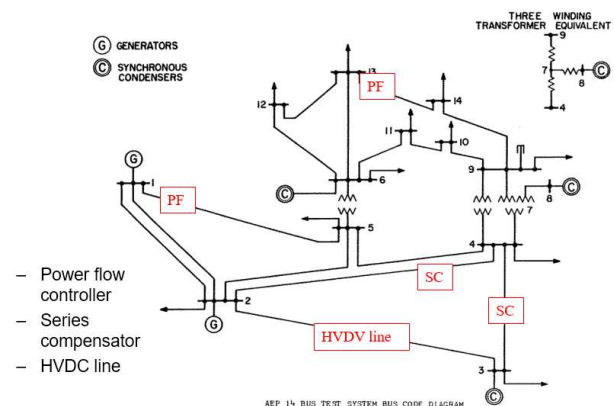

Fig. 9. OPF influencing points
- Flow influencing points are on the lines (see fig.9.)